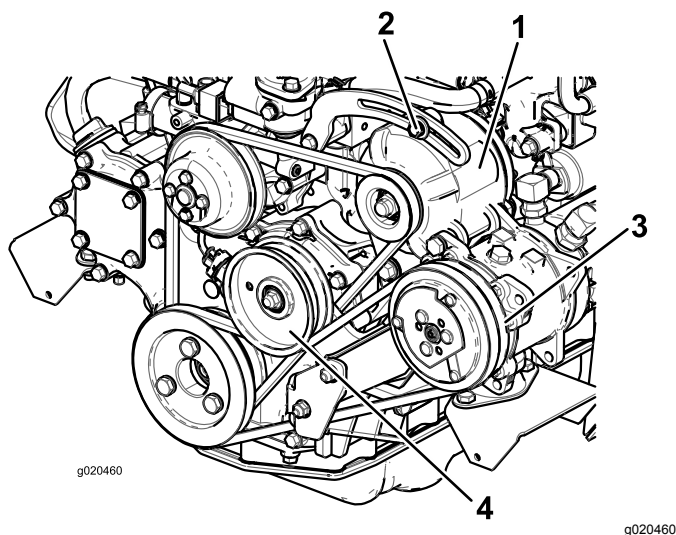

Figure 96
If the deflection is not 10 mm (3/8 inch), loosen the alternator-mounting bolts (Figure 96).
2. If the deflection is not 10 mm (3/8 inch), loosen the idler pulley mounting bolt (Figure 96).